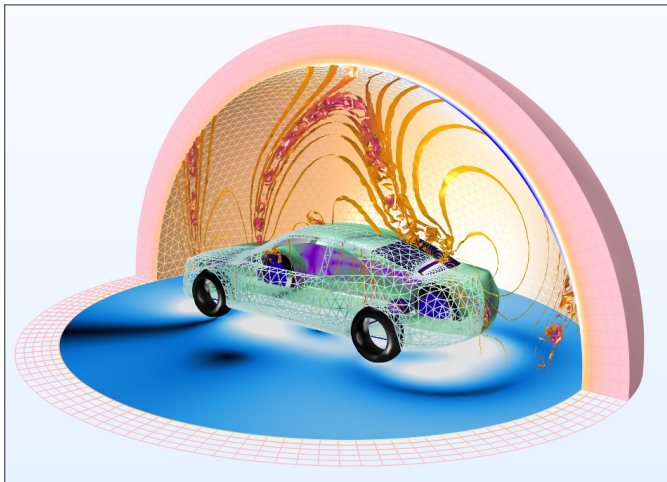

Figure 4: Impact on cable harness by the radiation from the rear windshield in the FM radio frequency band.
Figure 4: When in receive mode, spectrum analyzers can imitate higher cost EMI receivers, but make sure it has at least a quasi-peak (QP) detector with a directional antenna. (Image source: Rohde & Schwarz)
To scan a wide range of frequencies for interferers, a full EMI receiver with an array of filters and wide dynamic range is a good option, but can be expensive. Alternatively, a spectrum analyzer can come close to an EMI receiver’s capabilities without breaking the bank. Start by getting a baseline and account for any present signals. Spectrum analyzers, such as the R&S®FPC1500, have optional PC EMI software (Elektra) that can set the compliance limits, or the user can do it manually, *Figure 4*.
In *Figure 4*, the electric field transmitted from a fictitious radiating device on the rear windshield of a car is studied to see the radiated emission effect over the cable harness inside. The PML covers the upper half-space, absorbs all outgoing waves, and ensures that reflected waves do not bounce back onto the car. Meanwhile, the bottom ground and the car body generate reflection and multipath fading effects on the cable harness. The electromagnetic waves coupled to the cable are a source for unwanted conducted emission as well. In a real car system, it would
Via penetration: Very often, signals need to be run from the top side to the bottom side (or interior-to-interior layers), relying on vias to get there. If you only need to pass from one side of a GRP to the other, there’s no issue, because the electromagnetic field of the signal is contained between a constant metallic transmission line along the entire path (*Figure 4*).
Figure 4. Passing a signal trace through a single GRP allows field propagation along the entire path. The dielectric layer is not shown for clarity and the field propagation is represented by the red “waves.”